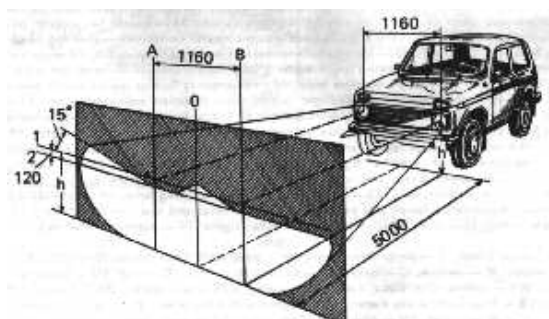

Fig 67. Aiming headlight lower beam
1. Place the car in running order with a load of 750 n (75 kg) on the driver's seat and with normally inflated tyres on a level ground (Fig. 67) at a distance of 5 m from a vertical white screen located in a shade. A white wall of a building may serve as a screen.
4. Switch on the lower beam and rotating screws 1 and 2 (Fig. 68), set the light units so that the horizontal border-line between the light and dark zones passes along line 2 (Fig. 67), and the inclined limiting lines come from the points of intersection of lines A and B with line 2.